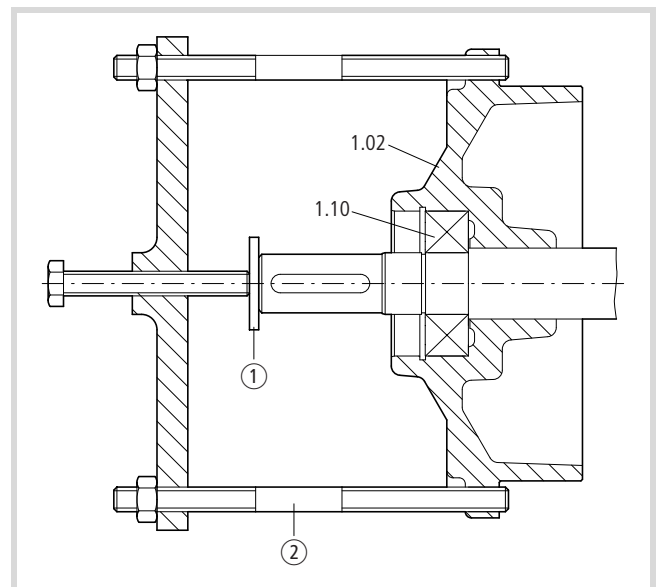

Figure 9: Removing the DE end shield (1.02) and DE roller bearing (1.10) from the shaft
- ▶ Remove the DE end shield (1.02) and the DE roller bearing (1.10) from the shaft using an extractor (→ Fig. 9).